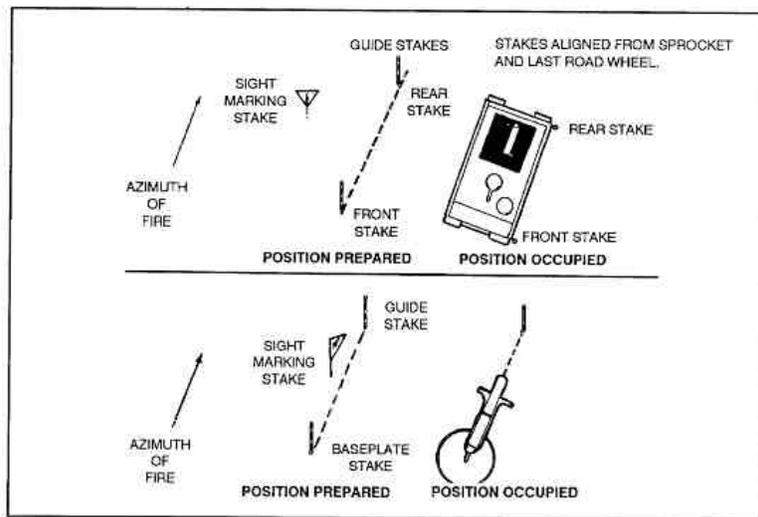

Figure 6-5. Marking positions.
(1) Verifying the position location.
(2) Checking the position and surrounding areas for mines, NBC contamination, and enemy forces.
(3) Establishing local security and OPs.
(4) Marking mortar positions with stakes or lights (Figure 6-5).